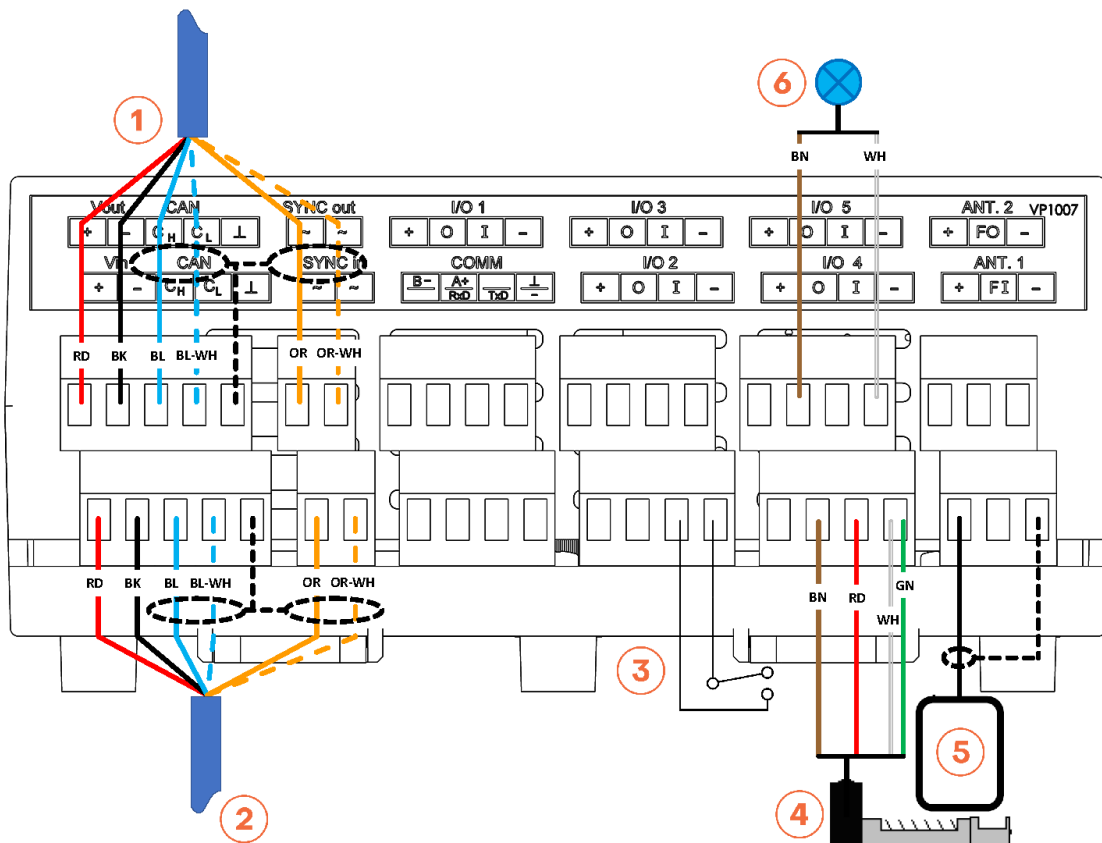

Figure 1: Wiring diagram VP1007-B example
1. Install all wiring according to the VP1007-B wiring diagram. An example of a VP1007-B wiring diagram is shown in Figure 1 (page 9).